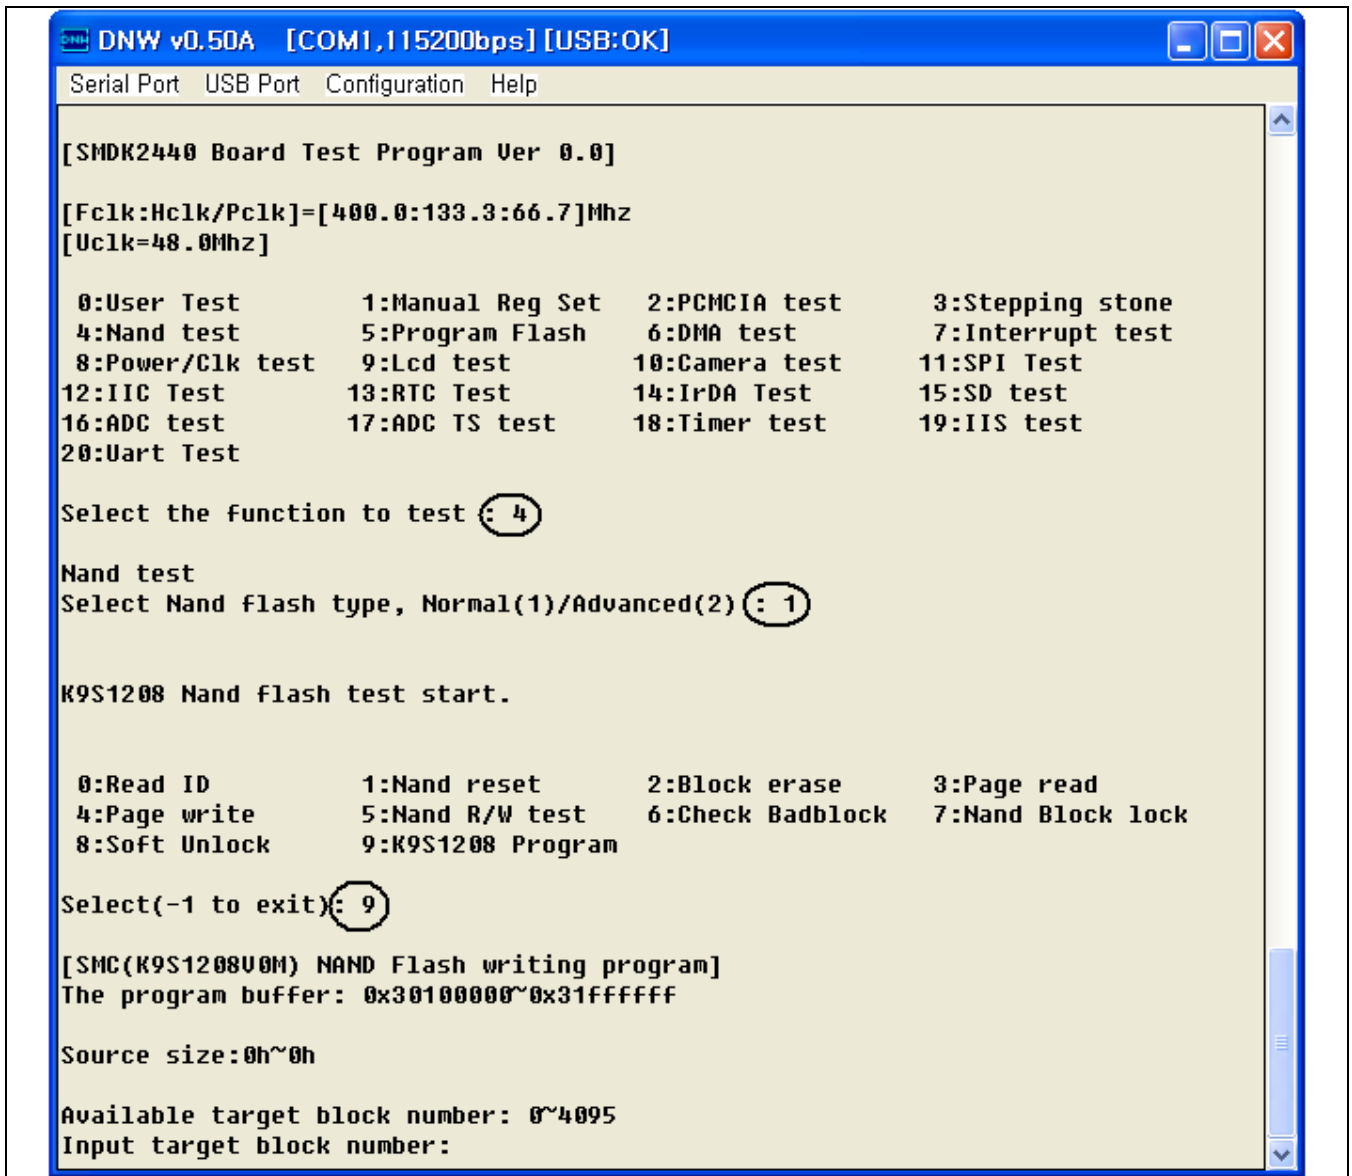

Figure 3-10. DNW Window (2440test Program)
10. Write '5' and press enter key on the DNW window (See Figure 3-10).
11. Select Nand flash type (See Figure 3-10).
12. Write '4' and press enter key on the DNW window (See Figure 3-10).